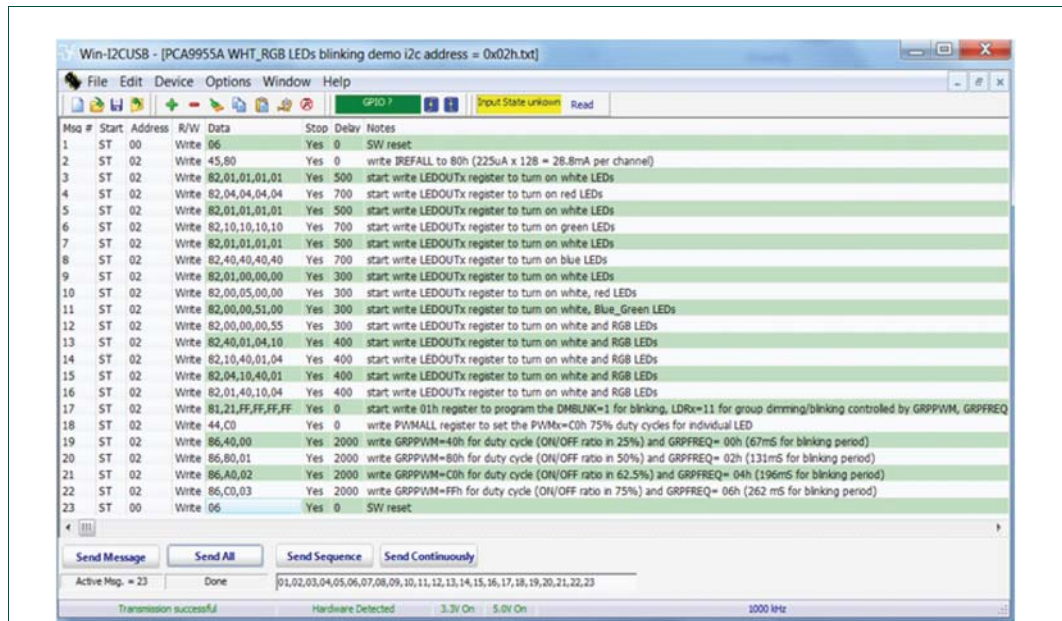

Fig 8. Message data in Expert mode to demonstrate all White and RGB LEDs for blinking
3. After opening the 'PCA9955A/B WHT\_RGB LEDs blinking demo i2c address = 0x02h.txt' text file, the Win-I2CUSB GUI in Expert mode screen will be displayed as shown in Figure 8.